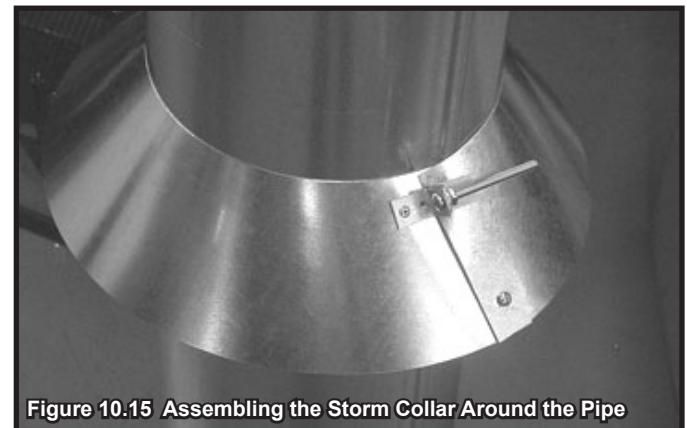

Figure 10.15 Assembling the Storm Collar Around the Pipe
- Slide the assembled storm collar down the pipe section until it rests on the roof flashing (see Figure 10.15).